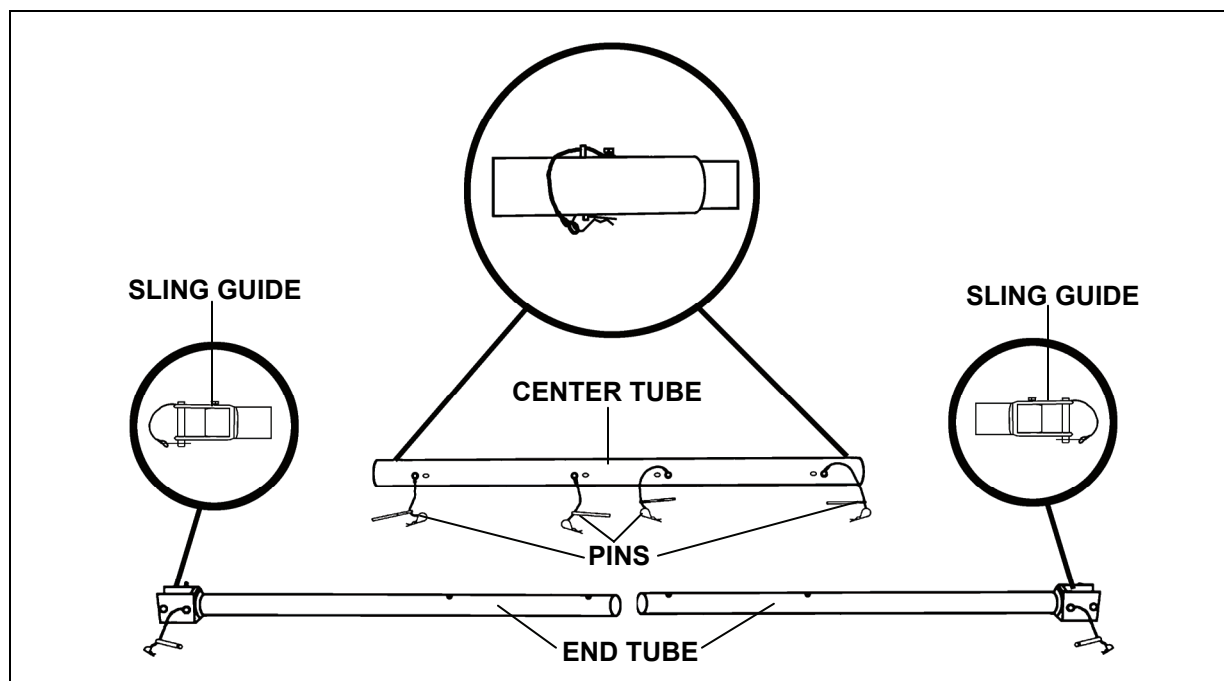

Figure 8-41. 15,000-Pound Spreader Bar (P/N 11-1-4703)
- 15,000-Pound Spreader Bar.** The 15,000-pound spreader bar (Figure 8-41) is used to keep the sling legs from contacting or damaging the load during sling loading. The 15,000-pound spreader bar may be used on single-point, dual-point, or tandem loads but only when authorized in the rigging instructions for that load. The 15,000-pound spreader bar consists of three interlocking aluminum tubes with an overall length of 104-inches and a working length of 100-inches. The sling legs are attached to the 15,000-pound spreader bar by removing the sling guide pins, placing the sling legs in the sling guides, and reinserting the sling guide pins. The NSN and part number are listed in Appendix B.